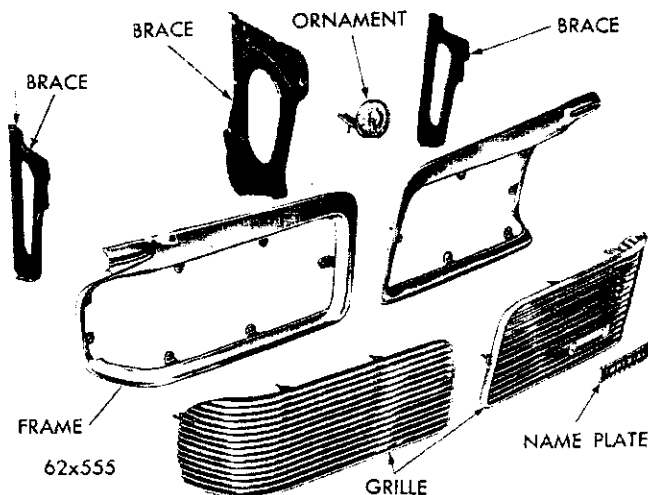

Fig. 99—Disassembled Grille (Imperial)
(1) Install the bumper center section and the license lamp and back-up lights on the bumper.
(2) Feed the stud in the upper part of bracket through supports, tighten finger tight, assemble the nuts to exposed bolts through the lower face bar finger tight.
(3) Align the bumper with the rear quarter panels and tighten all bolts securely.
(4) Connect the back-up light wires.
(5) Install the license lamp on the bumper, and connect the wire.
**GRILLE (IMPERIAL MODELS) (Fig. 99)**
(1) Remove the grille to the center support bracket screws.
(2) Remove the nuts attaching the grille to the front fenders (the nuts are accessible from under the fenders).
(3) Remove the bolts attaching the grille to the shield.
(4) Pull the grille straight out to remove.